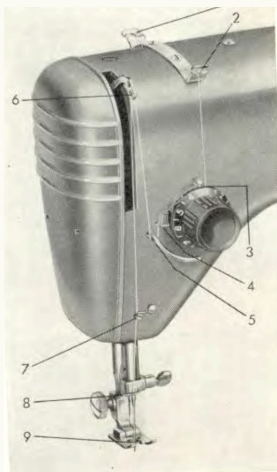
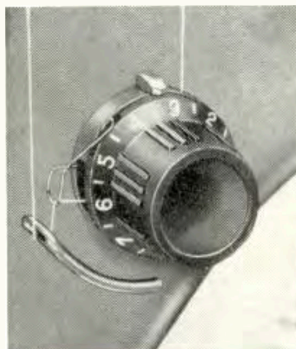

Fig. 12.
Fig. 13.
Bring the thread take-up lever (6, Fig. 12) to its highest position by turning the hand wheel towards you. Put a spool of thread on one of the spool pins (41 and 42, Fig. 2).
Pass thread through the thread guides (1 and 2, Fig. 12), then round from right to left between the innermost tension discs (3), over the crotch of the thread take-up spring (4), under the slack thread regulator (5) and up through one of the eyes in the thread take-up lever (6). From the take-up lever take the thread down through thread guide (7) and the guide on the needle clamp (8) and thread it through the needle from the front through the needle point, pulling out 3 or 4 inches behind.
The tension of the upper thread is regulated by the pressure of the tension discs (3, Fig. 12) against each other. This pressure is adjusted by means of a knob calibrated from 0 to 9 with 0 as lowest and 9 as highest thread tension (Fig. 13). When the machine leaves the factory, it is adjusted for linen-sewing with mercerized thread No. 50.